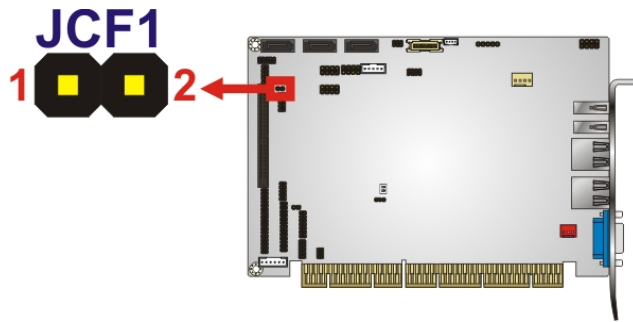

Figure 4-3: CF Card Setup Jumper Location
- Jumper Location:** See **Figure 4-3**
The CF Card Setup jumper location is shown in **Figure 4-3**.